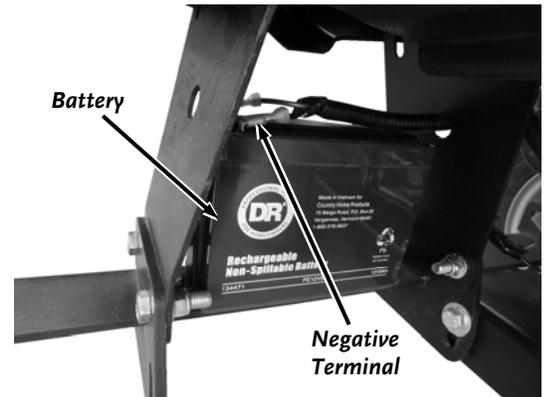

Figure 17
1. Connect the Black Negative Terminal onto the negative Battery Lug (*Figure 17*).